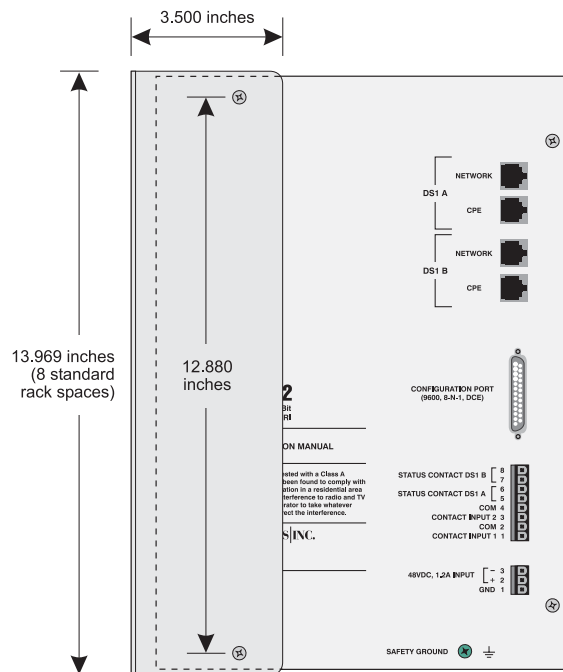
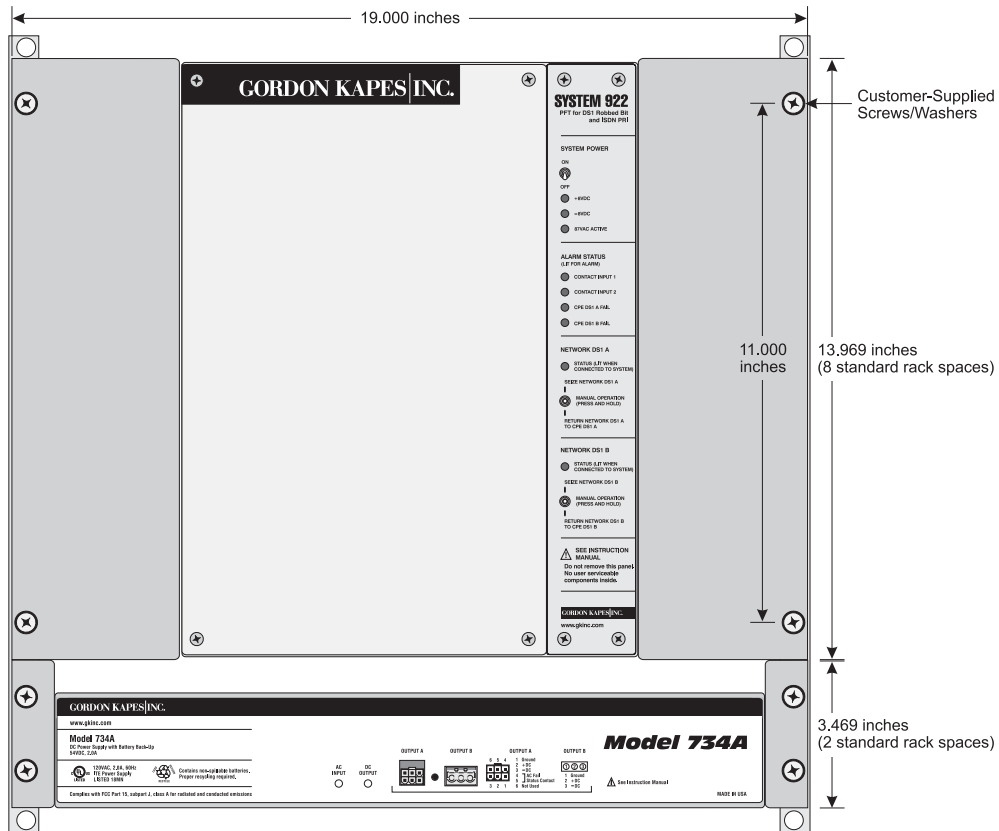

Figure 2-2. System 922 shown with Rack-Mount Bracket (Right Side of Unit)
Figure 2-3. Rack Mounting the System 922 and Model 734A Power Supply
- For rack mount applications, install the optional rack adapter plates per Figure 2-2. Note that the rack screws must be customer supplied. If rear access to the rack is restricted, do not fasten the System 922 to the rack assembly until all interconnecting cables are attached to the System 922. Figure 2-3 shows a System 922 rack mounted with a Model 734A DC Power Supply with Battery Back-Up.